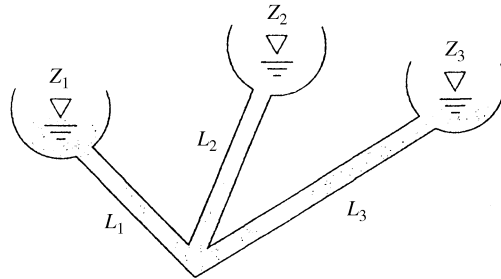

Fig. P6.121
6.121 Consider the three-reservoir system of Fig. P6.121 with the following data: